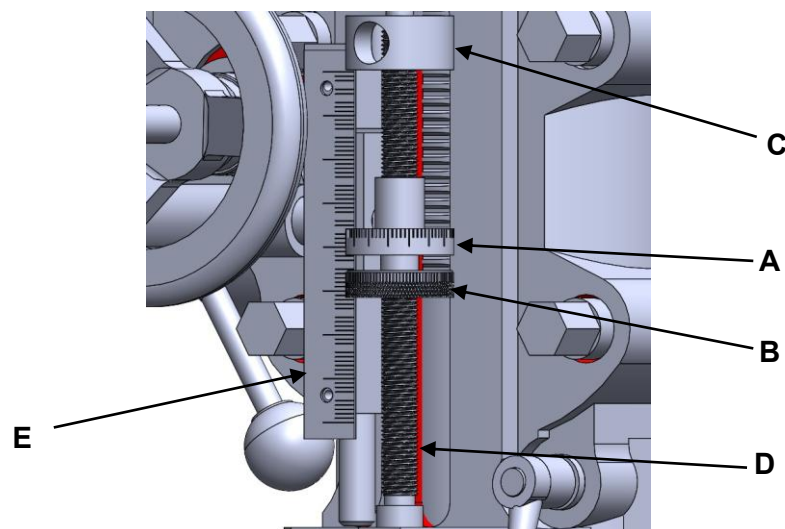

Figure 8
- **Automatic Disengagement** – The Feed Trip Cam Lever remains engaged until the Quill Stop (C, Figure 8) contacts the Micrometer Adjusting Nut (A, Figure 8), causing it to disengage automatically.
- **Location** – The Micrometer Adjusting Nut (A, Figure 8) is positioned on the front of the head.
- **Securing the Setting** – After adjusting the depth, secure it with the lock nut (B, Figure 8).
Referring to **Figure 8**: